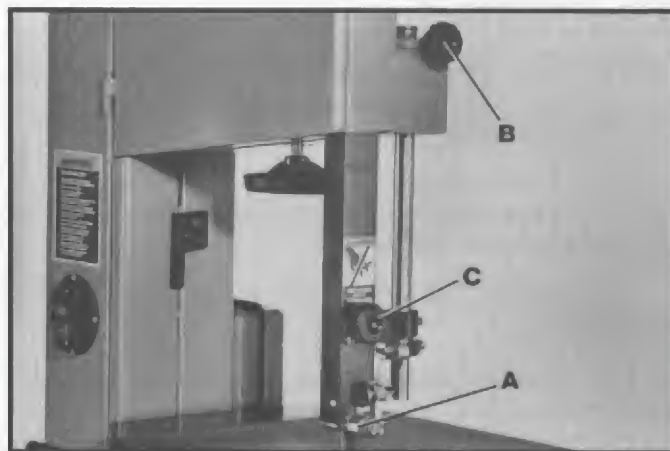
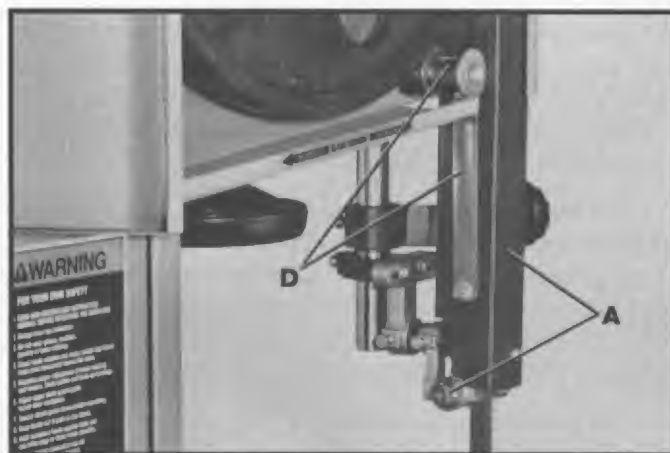

Fig. 13
Fig. 14
The upper blade guide assembly (A) Fig. 13, should always be set as close as possible to the top surface of the material being cut by loosening lock knob (B) and moving the guide assembly (A) to the desired position. Then tighten lock knob (B). **NOTE:** A knob (C) is provided to assist in raising or lowering the guide assembly and a spring (D) Fig. 14, is provided to prevent the upper guide assembly (A) from falling when the lock knob (B) Fig. 13, is loosened.